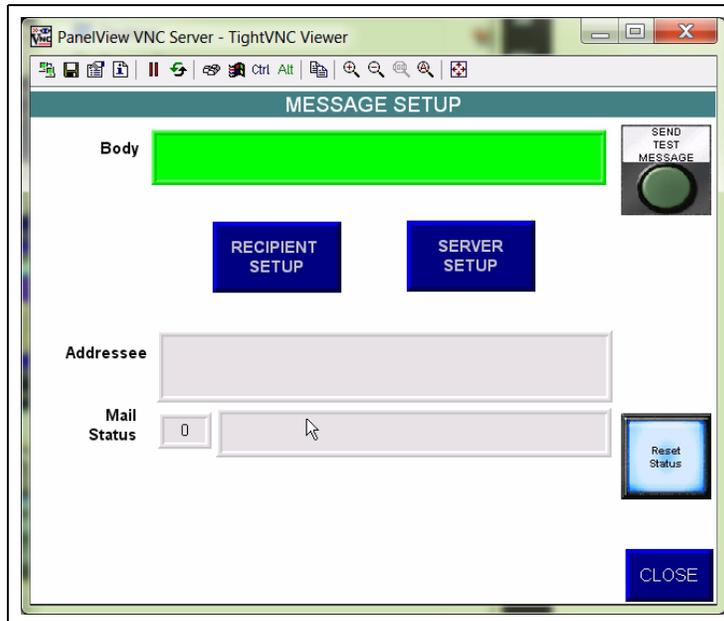

Figure 5A
1. Navigate to the Message Setup screen by going through the Help/Info, then Watchdog Messaging. (See Figure 5A.)